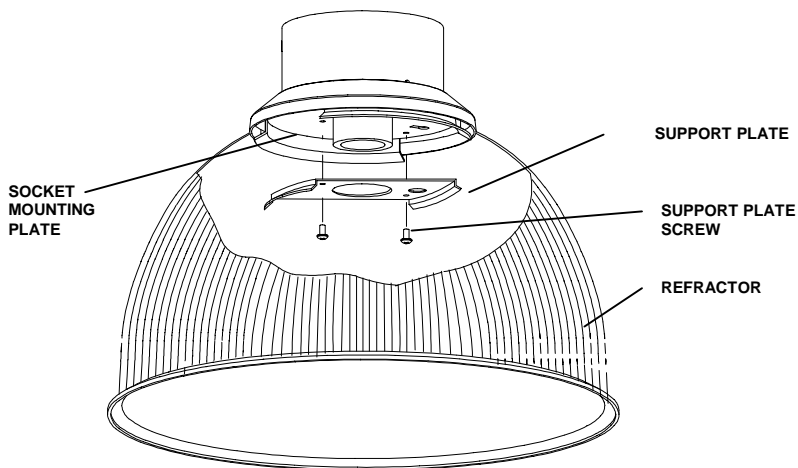

FIG. 7
2. Secure SUPPORT PLATE to SOCKET MOUNTING PLATE using two SCREWS provided with REFRACTOR (Fig. 7).